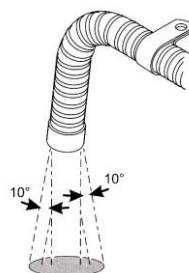

Fig.25
4.6.6 When the heat is working, the exhaust pipe is at high temperature. In installation, make sure to install it in far distance from plastic parts or other objects with poor thermal resistance of the vehicle body. The exhaust pipe shall be properly fixed. The exhaust vent shall be downwards, perpendicular to road surface with an angle of $90^\circ \pm 10^\circ$. To ensure such an angle, the fixing clamp for the exhaust pipe shall be within 150mm from the pipe end. (Fig. 25)